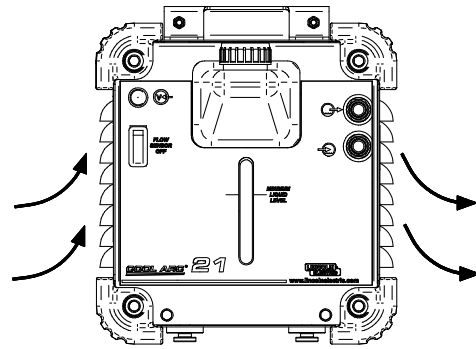

Figure 4.
9. **Airflow Slots:** Enable proper circulation of air cooling (Figure.4).